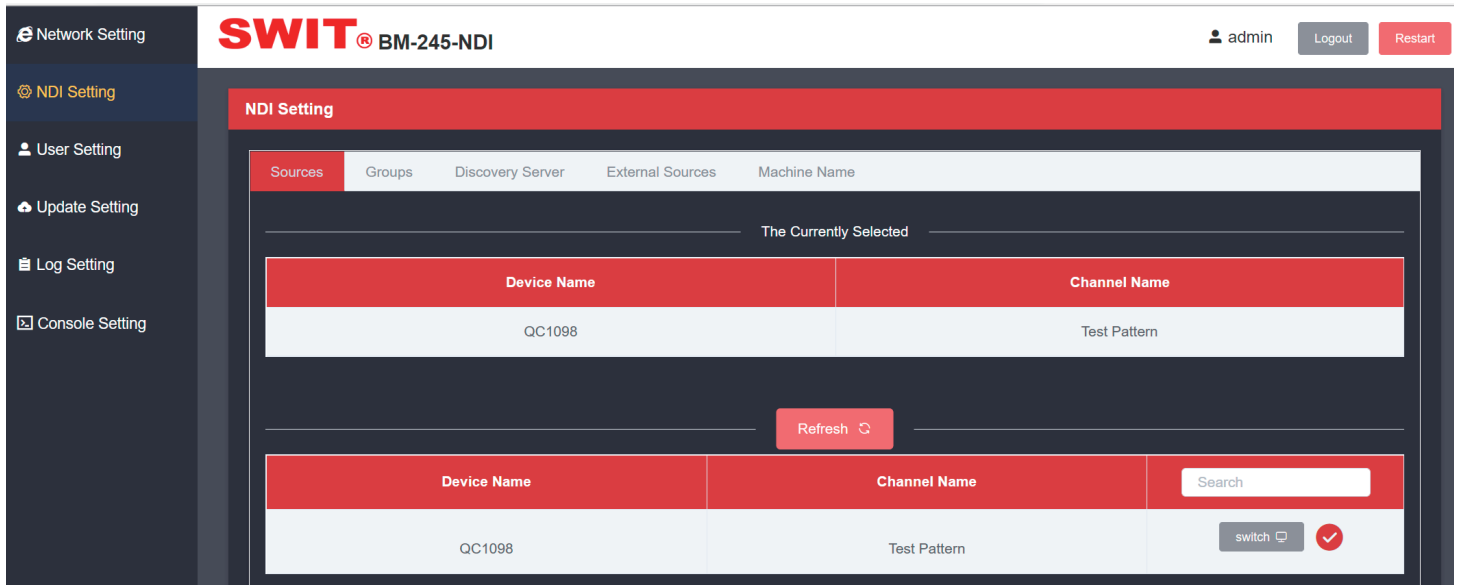

Fig.3
7. In the Search Search box, Search by the known NDI device name or NDI source name for quick Search. See Fig.3 below for details.